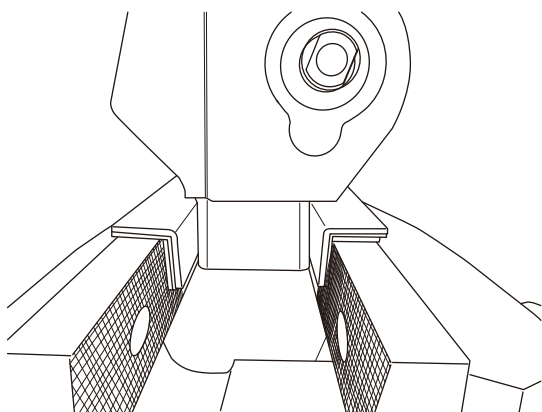

Fig.23
- b. Fix the handle insertion part of the pump head with a vise. (Fig.23)